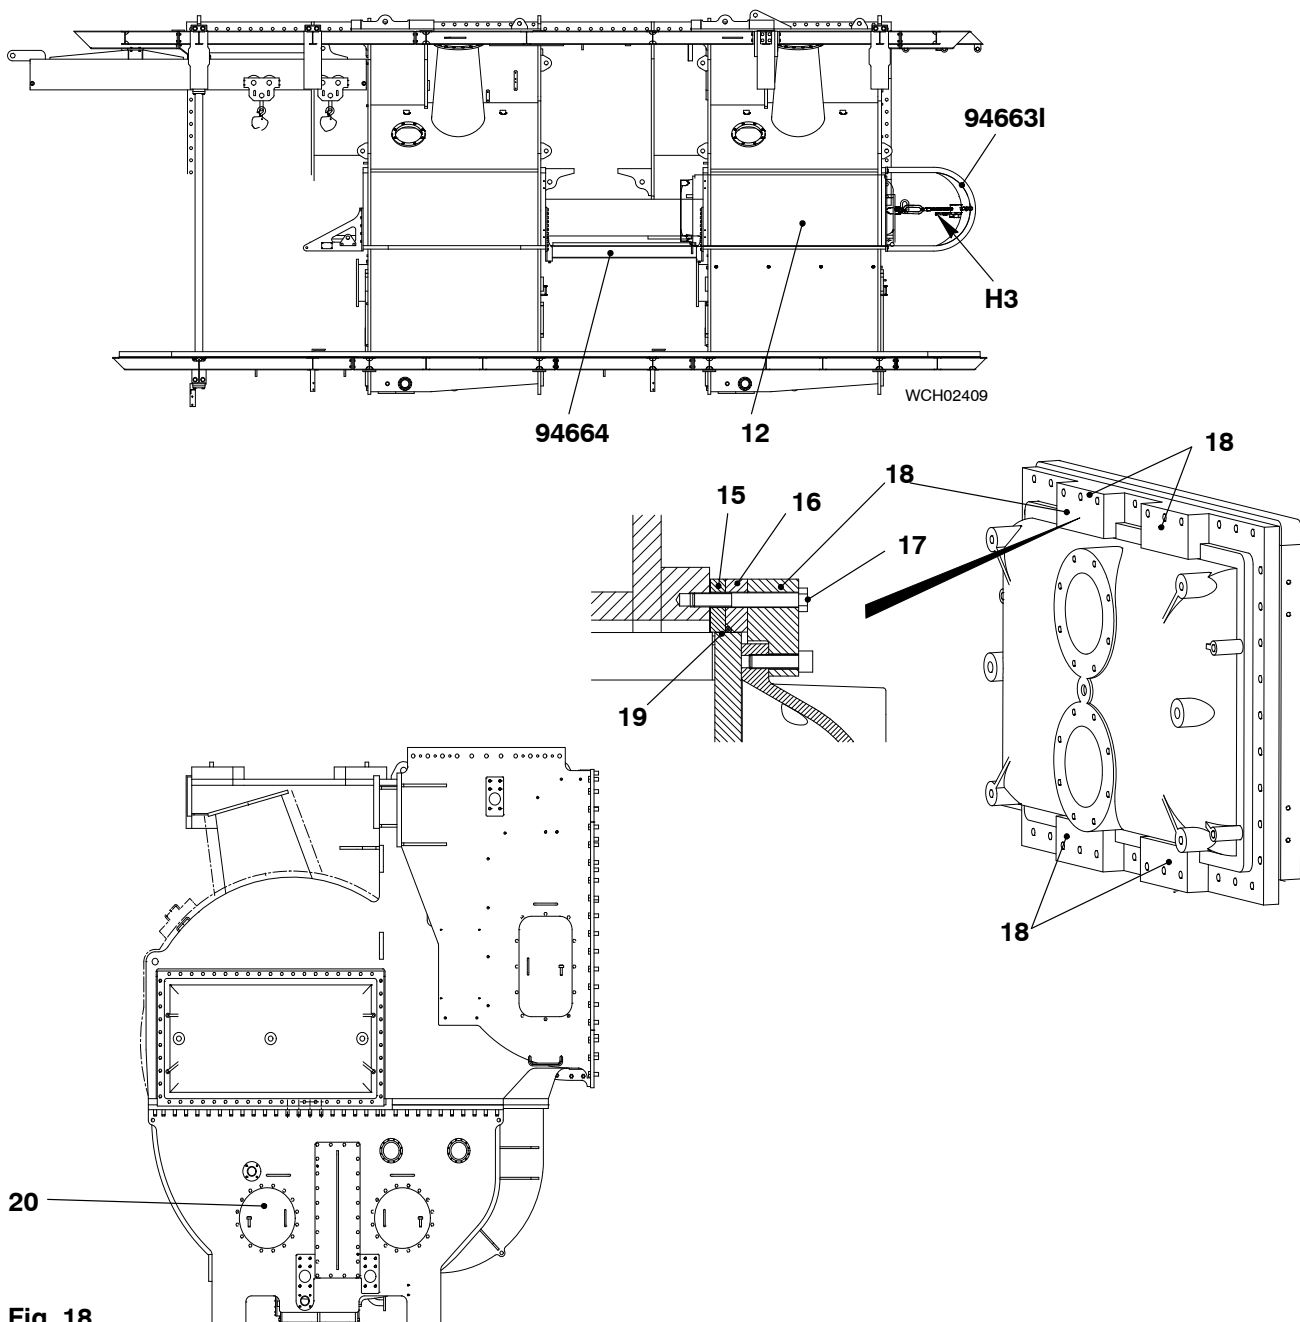

Fig. 18
- 15) Continue to operate the manual ratchet (H3) until the wheel of the SAC (12, Fig. 18) is on the lip of the opening.
- 16) Open the inspection cover (20) to get access into the under-slung part.
- 17) Apply a layer of high-temperature silicon sealing compound (ABT.250) to each side of the SAC (12) and the related surfaces in the housing in the scavenge air receiver.
- 18) Apply a layer of high-temperature silicon sealing compound (ABT.250) to the sealing surfaces of the SAC (12).
- 19) Close the inspection cover (19).